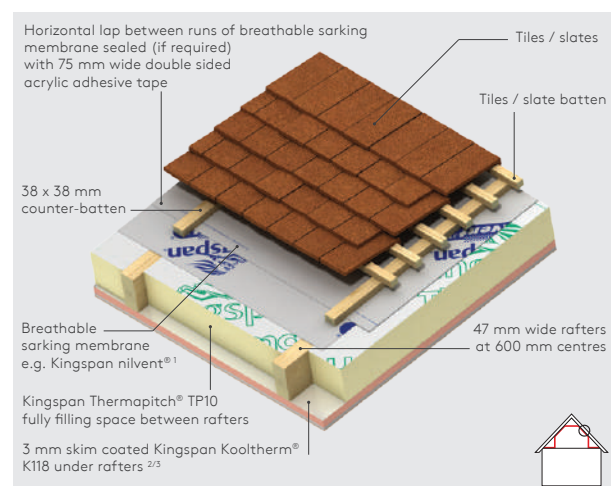

Figure 1a
NB When calculating U-values to BS EN ISO 6946: 2017, the type of mechanical fixing used may change the thickness of insulation required. The effect of fixings for Kingspan Kooltherm® K118 in the U-value calculations for Figures 1a, 1b, 1c, 1d, 2a, 2b, 4a & 4c is insignificant as the insulation layer penetrated is not the main insulation layer. The U-value calculations for Figures 3a & 3b assume that over rafter layers of insulation are fixed using stainless steel fixings with a cross sectional area 7.90 mm2, with 3.7 fasteners per m2 (insulant thickness 0-40 mm), 6.2 per m2 (insulant thickness 41-60 mm), 8.3 per m2 (insulant thickness 61-80 mm) and 10.0 per m2 (insulant thickness 81-100 mm). The U-value calculations for Figures 3a & 3b also assume that over rafter layers of insulation are fixed using stainless steel fixings with a cross sectional area 9.1 mm2, with 11.1 fasteners per m2 (insulant thickness 101-125 mm). Please contact the Kingspan Insulation Technical Service Department (see rear cover) for project calculations.
- 1 In Figures 1a & 3a the breathable sarking membrane can be placed over the counter-battens, draped to provide for drainage and overlain with tile / slate battens. This will yield a marginally better U-value but it will be more difficult to seal the breathable sarking membrane effectively.